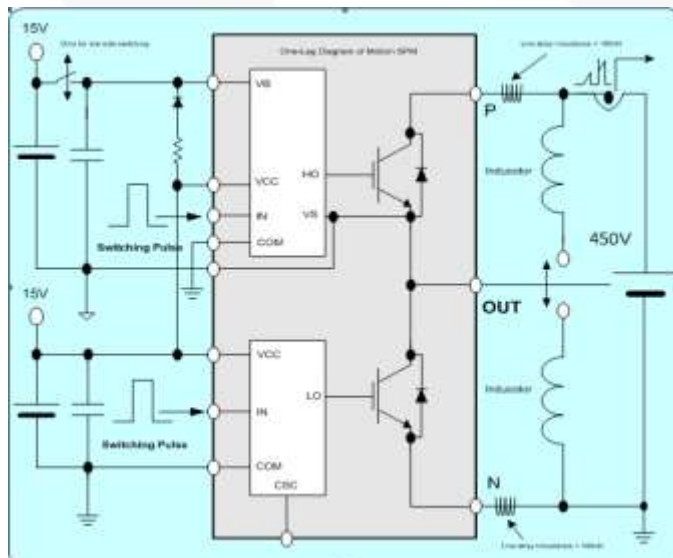
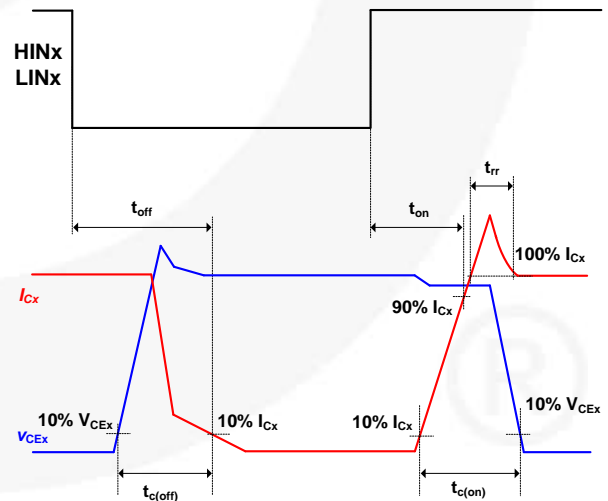

Figure 5. Switching Evaluation Circuit
Figure 6. Switching Time Definition
1. t_{ON} and t_{OFF} include the propagation delay of the internal drive IC. t_{C(ON)} and t_{C(OFF)} are the switching times of the IGBT itself under the given gate driving condition. For detailed information, see Figure 5 and Figure 6.